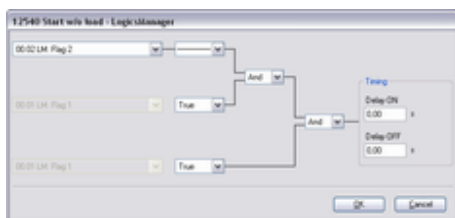

Fig. 221: LogicsManager function "Start without load"
3. ➤ The LogicsManager function "Start without load" (parameter 12540 ↵ p. 277/↵ p. 852/↵ p. 852) can be configured as shown in (Fig. 221).